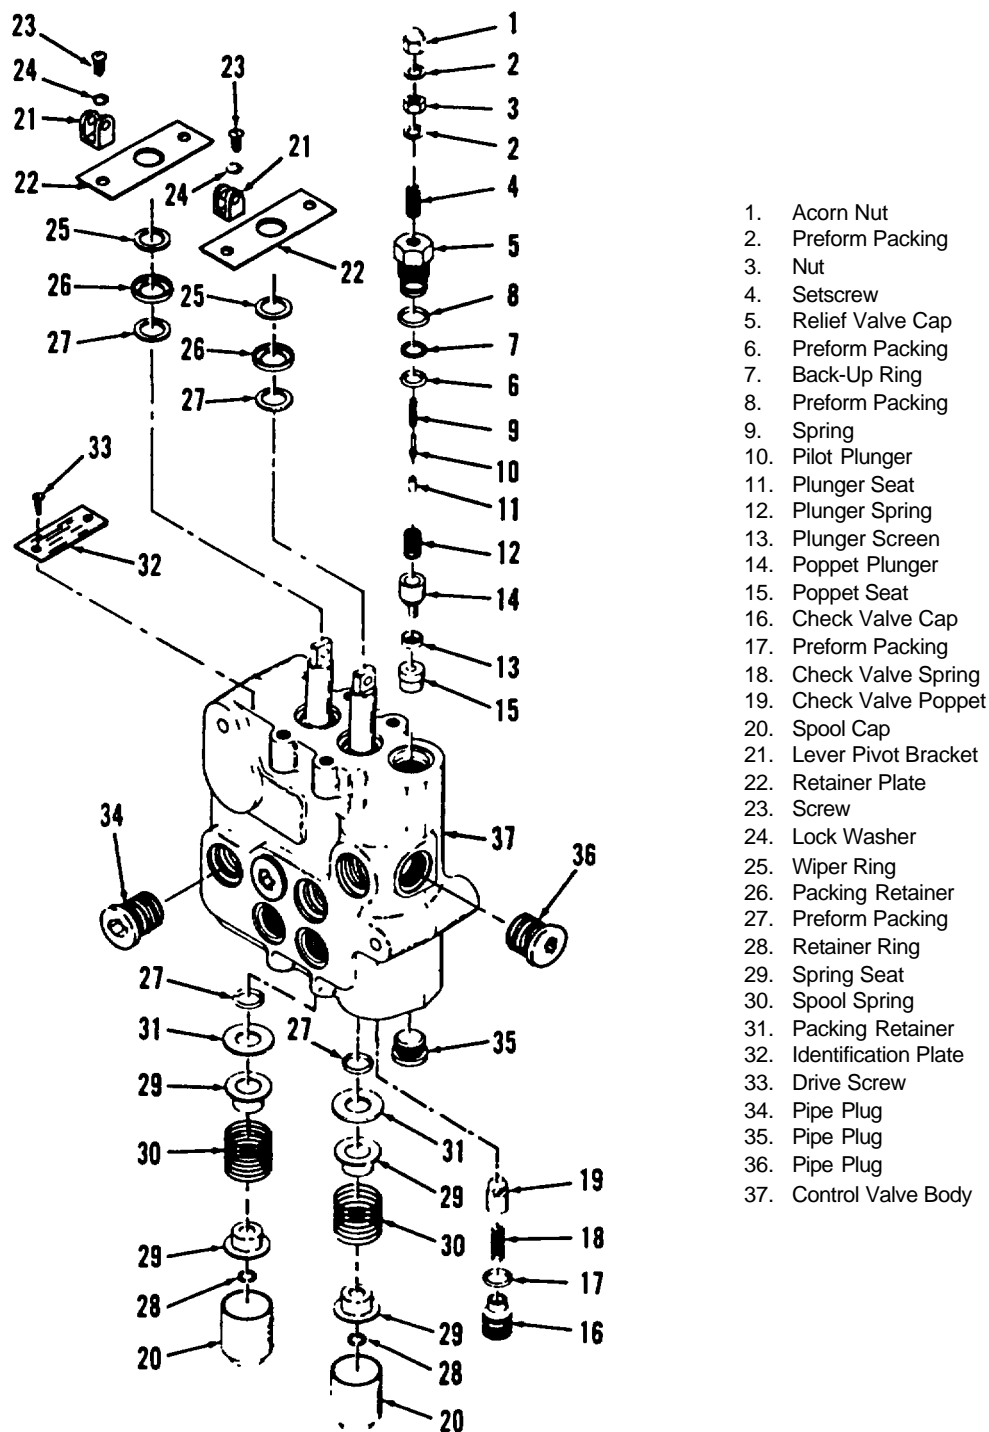

Figure 4-6. Hydraulic Hoist and Tilt Control Valve, Exploded View
2. Unscrew plug and seal (35, figure 4-6). Remove nut (1), nut (3) and packings (2). Back out setscrew (4), and remove spring (9) and pilot plunger (10). Remove relief valve cap (5) and packing (8).
3. Remove packing and backup ring (6 and 7), pilot seat (11), spring (12), poppet screen (13), plunger (14) and seat (15).
4. Remove check valve cap and packing (16 and 17), spring (18) and poppet (19).
5. Remove screws (23) and brackets (21) from both TILT and HOIST valves. Remove wipers (25), packing retainers and packing (26 and 27).
6. Take off both spool caps (20), and remove retaining rings (28), four spring retainers (29), and springs (30).
7. Remove packing retainers (31) and packings (27).
8. If identification plate (32) must be replaced, remove drive screws (33).